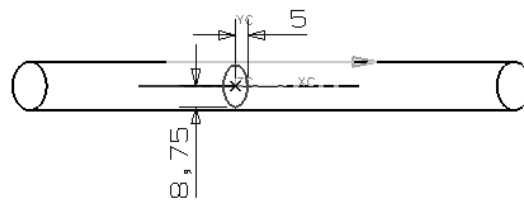

Figure 11-109 The section curve drawn for creating the sweep surface
- Select the newly created plane and draw the ellipse (section curve), as shown in Figure 11-109. Exit the **Sketcher** environment.